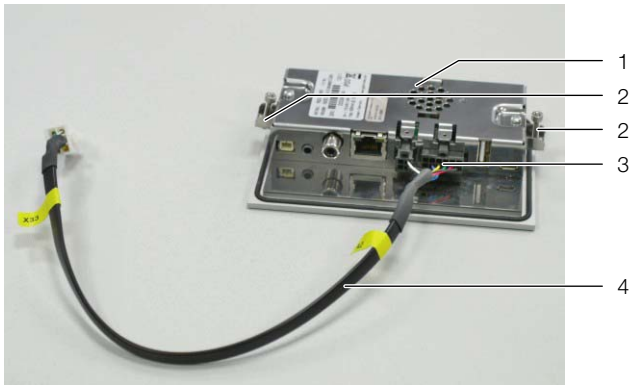

Fig. 60: Preparing the graphic display
- Insert the fastening clamps with screws (fig. 60, item 2) on the left and right of the display.
- Insert the connection cable (fig. 60, item 4) into the bottom of the display (fig. 60, item 3).